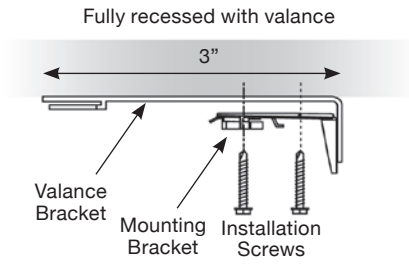

Figure 2
1. Valance Brackets are mounted flat against the top sill surface. Using the Installation Screws align the Mounting Bracket with the Valance Bracket and drill the Installation Screws into the top sill (Fig. 2).